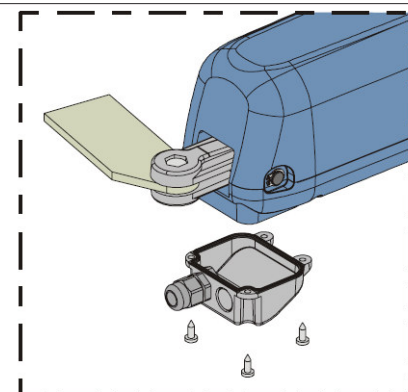

Fig. 16
- 4) Close the cover with the four supplied screws, Fig.16.